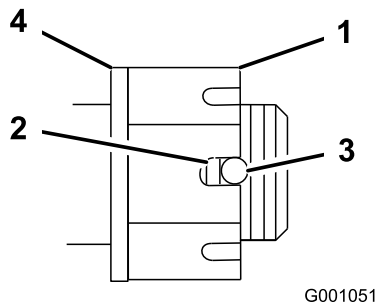

Figure 52
4. Torque the slotted nut to 125 ft-lb (170 N·m) (Figure 52).
5. Check the distance from bottom of slot in nut to inside edge of hole. Two threads or less should be showing (Figure 52).
7. Torque the slotted nut to 125 ft-lb. (170 N·m) (Figure 52).
8. Tighten the nut until the next set of slots line up with the hole in the shaft (Figure 52).